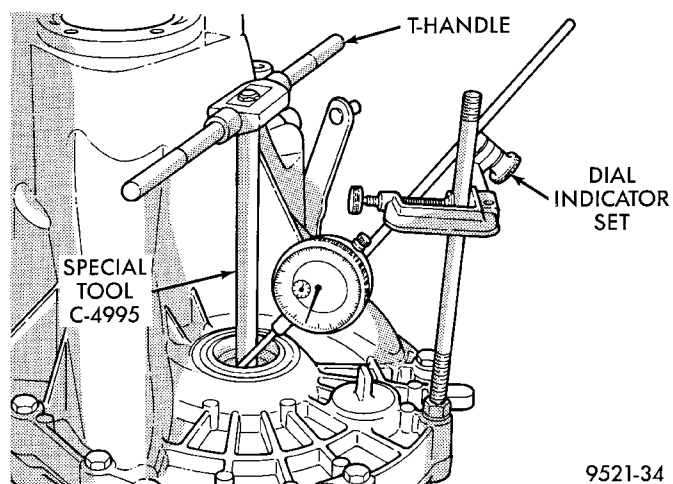

Fig. 76 Checking Differential Bearing End Play To Determine Shim Thickness
(1) Remove bearing cup and existing shim from clutch bellhousing case.
(2) Press in new bearing cup into bellhousing case (or use a cup that has been ground down on the outer edge for ease of measurement).
(3) Press in new bearing cup into gear case side.
(4) Oil differential bearings with Mopar® type M.S. 9417 Manual Transaxle Fluid. Install differential assembly in transaxle gear case. Install clutch bellhousing over gear case. Install and torque case bolts to 29 N·m (21 ft. lbs.).
(5) Position transaxle with bellhousing facing down on workbench with C-clamps. Position dial indicator.
(6) Apply a medium load to differential with Tool C-4995 and a T-handle, in the downward direction. Roll differential assembly back and forth a number of times. This will settle the bearings. Zero the dial indicator. To obtain end play readings, apply a medium load in an upward direction while rolling differential assembly back and forth (Fig. 76). Record end play.